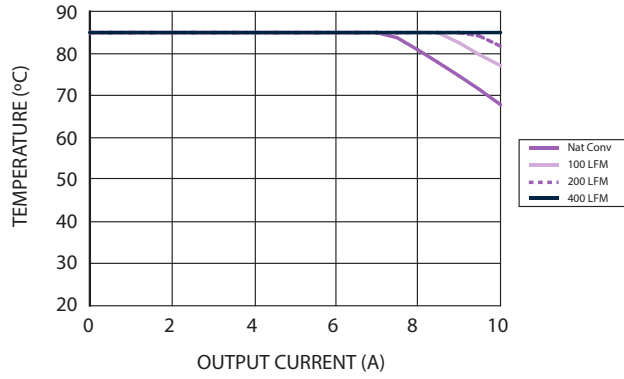
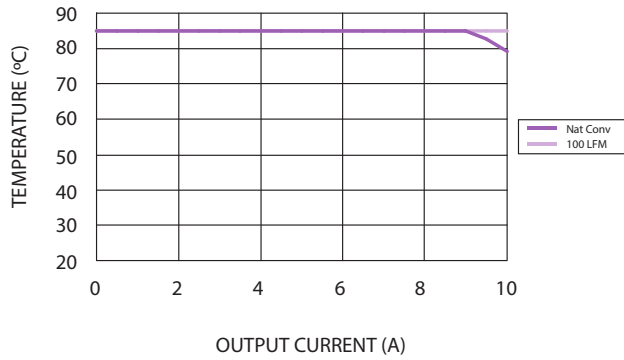

Figure 1 - Safe Operating Area
Figure 6 - Safe Operating Area
- See Figures 1, 2 and 3 for safe operating curves of PTH12060W and Figures 6, 7 and 8 for safe operating curves of PTH12060L.